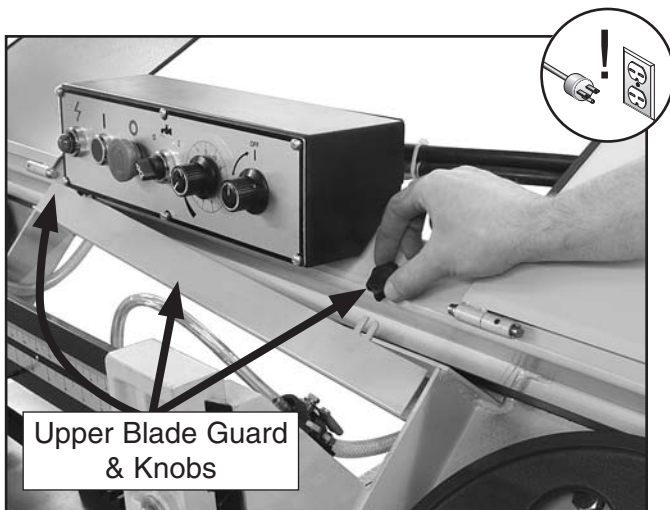

Figure 26. Removing upper blade guard.
4. Remove the the upper blade guard (see **Figure 26**).